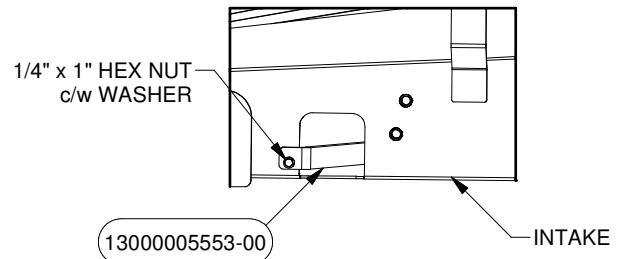

FIGURE 7
15. Attach the Scraper PN# 5553 to the Intake PN# 6640. Insert the other end in to a Rectangular Hole then fasten it using Hex Bolt c/w Nuts and Washer. Fasteners can be found in EPTO /Short Intake Hardware Box PN# 6685/6913 in Bolt Bag PN# 6682/6915. See Figure 7 for details.